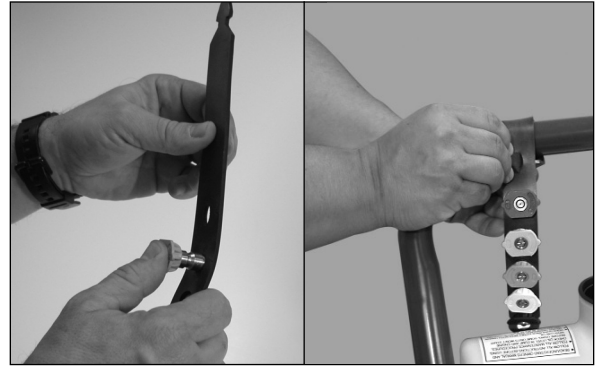

Figure 8 - Insert spray tips into the rubber tip holder
7. Install quick connect tips to tip holder and secure to the pressure washer handle. See Figure 8.